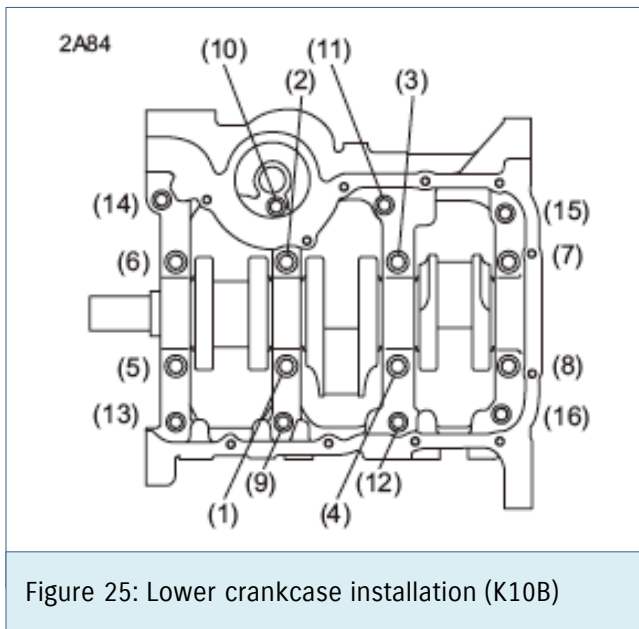

Figure 25: Lower crankcase installation (K10B)
When installing the lower crankcase, apply engine oil to the bolts and tighten the bolts with a torque wrench from the center to the outer sides, in order from (1) to (8) as shown in the figure. Then, in the reverse order, loosen the bolts until their torque is 0. After this, tighten to the specified torque in 2 cycles. After tightening bolts (1) to (8), tighten bolts (9) to (16) to the specified torque in the order shown in figure 25.